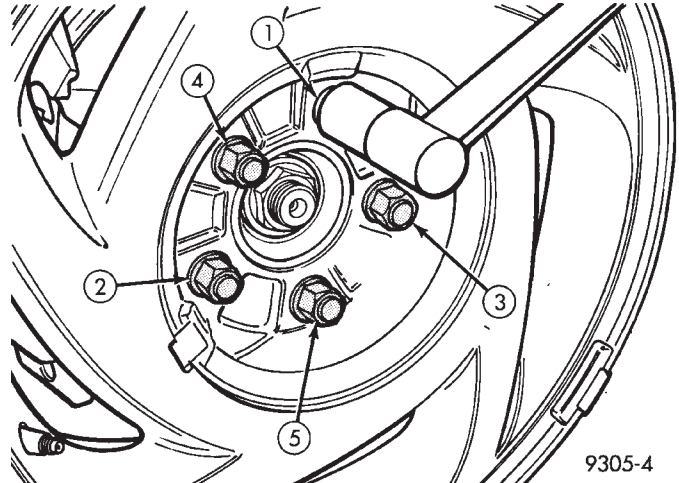

Fig. 20 Tightening Wheel Nuts
(12) Install wheel and tire assembly on vehicle. Tighten the wheel mounting stud nuts in proper sequence (Fig. 20), until all nuts are tightened to half specification. Then repeat the tightening sequence to the full specified torque of 129 N·m (95 ft. lbs.).
(13) Lower vehicle to the ground.